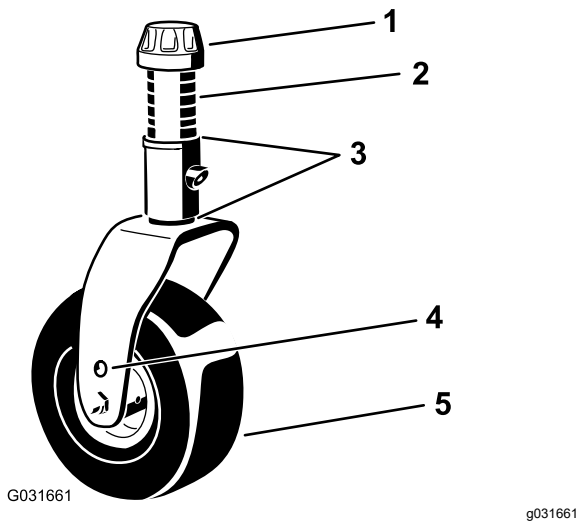

Figure 19
4. Using the supplied caster-cap wrench, loosen the tensioning cap and remove it from the caster-spindle shaft and slide the caster shaft out of the caster arm (Figure 19).
- 7. Install the shims (as originally installed) and the remaining spacers onto the shaft (Figure 19).
- 8. Install the tensioning cap and tighten it with the supplied caster-cap wrench to secure the assembly (Figure 19).